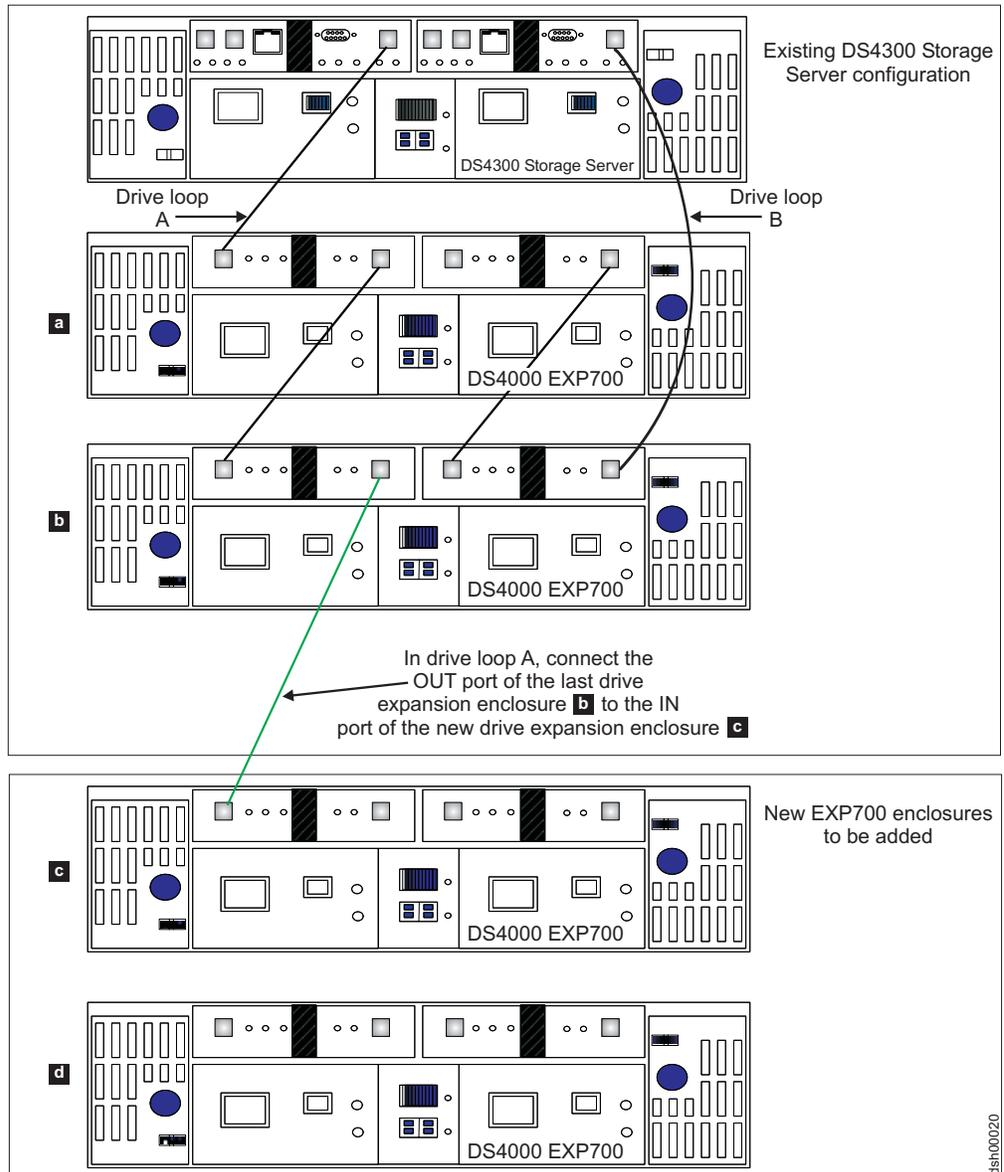
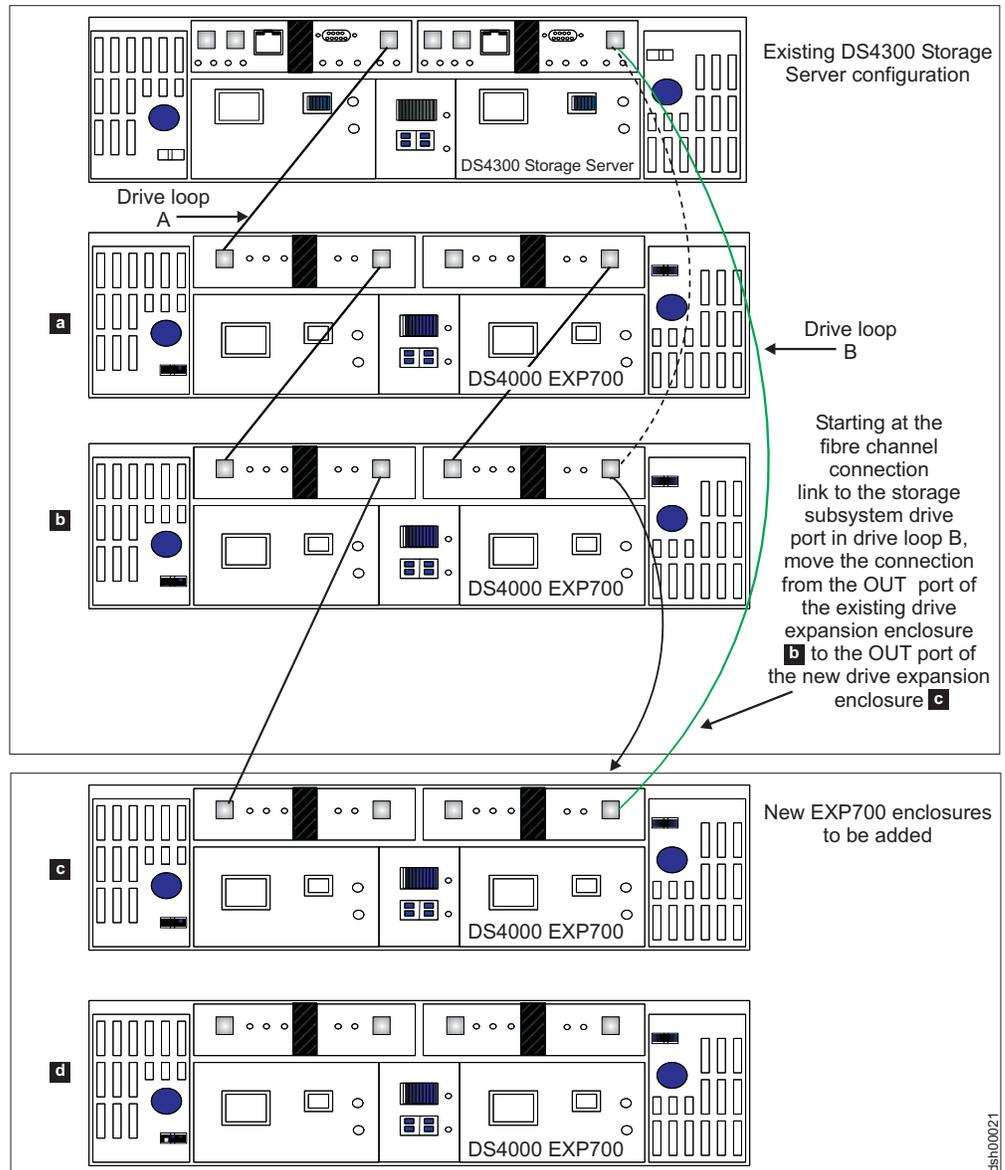
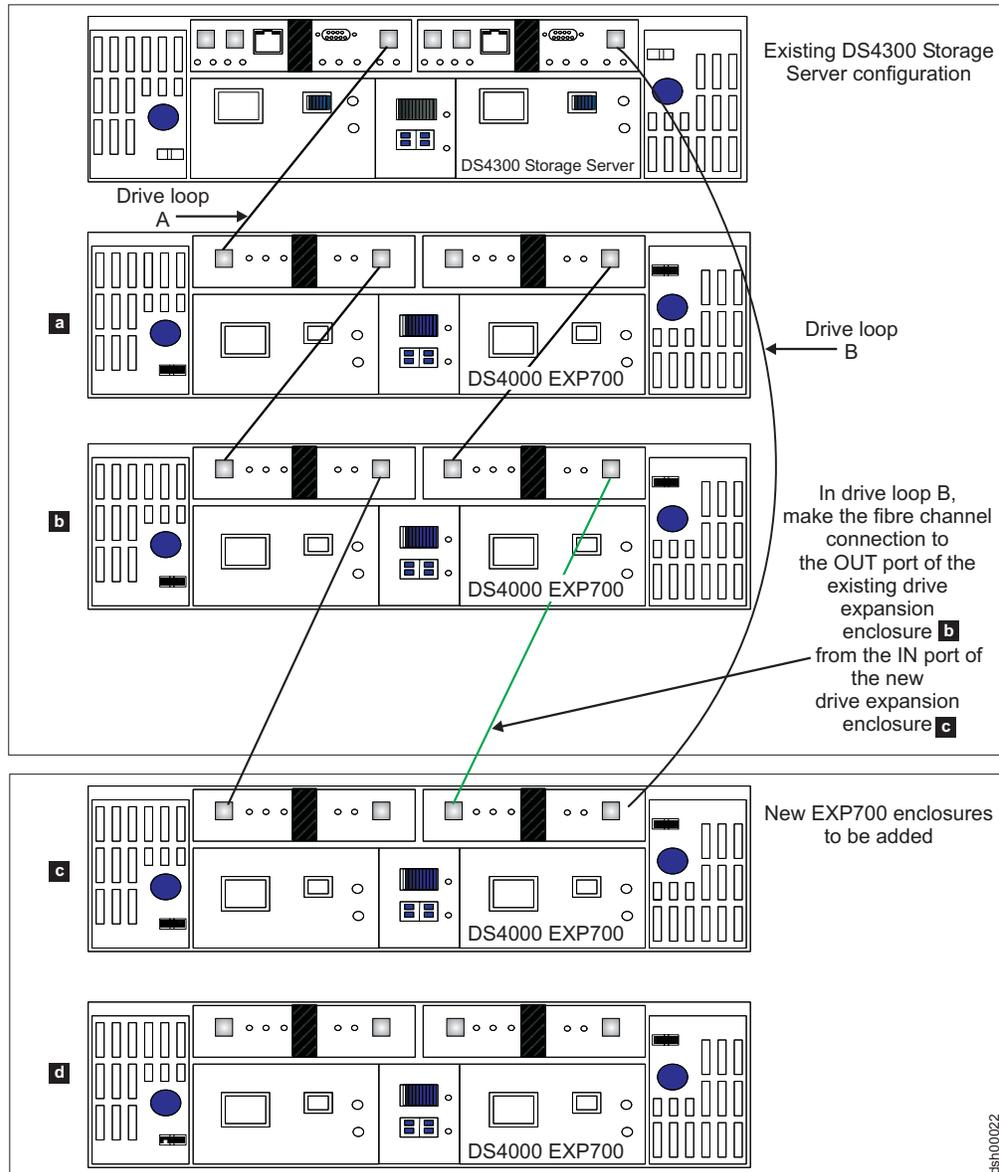

Figure 22. Cabling a single drive enclosure to the end of a functioning drive loop (step 1 of 3)
Figure 23. Cabling a single drive enclosure to the end of a functioning drive loop (step 2 of 3)
Figure 24. Cabling a single drive enclosure to the end of a functioning drive loop (step 3 of 3)
Cabling instructions in the steps that follow are based on the cable routing scheme that is documented in *IBM TotalStorage DS4000 Storage Manager installation and support guides*. The cabling instructions illustrated in Figure 22 on page 66, Figure 23 on page 67, and Figure 24 on page 68 describe cabling a DS4000 EXP700 Storage Expansion Enclosure to the end (bottom) of a redundant drive loop of a functioning DS4300 Storage Server (model 60X or 60U). Again, IBM recommends that you add storage expansion enclosures only in this manner.
- ___ Step 2. Extend one of the drive loops (that is, drive loop A) in a DS4000 Storage Server redundant drive loop pair by connecting the OUT port of the last storage expansion enclosure to the IN port of the new storage expansion enclosure as shown in Figure 22 on page 66.
- ___ Step 5. In the other drive loop (that is, drive loop B) in a DS4000 Storage Server redundant drive loop pair, remove the connection from the DS4000 Storage Server drive loop port to the OUT port of the last storage expansion enclosure and connect it to the OUT port of the new drive enclosure as shown in Figure 23 on page 67.
- ___ Step 7. In drive loop B, cable the new drive enclosure's IN port to the OUT port of the last enclosure in the already functioning storage expansion enclosure drive loop as shown in Figure 24 on page 68.